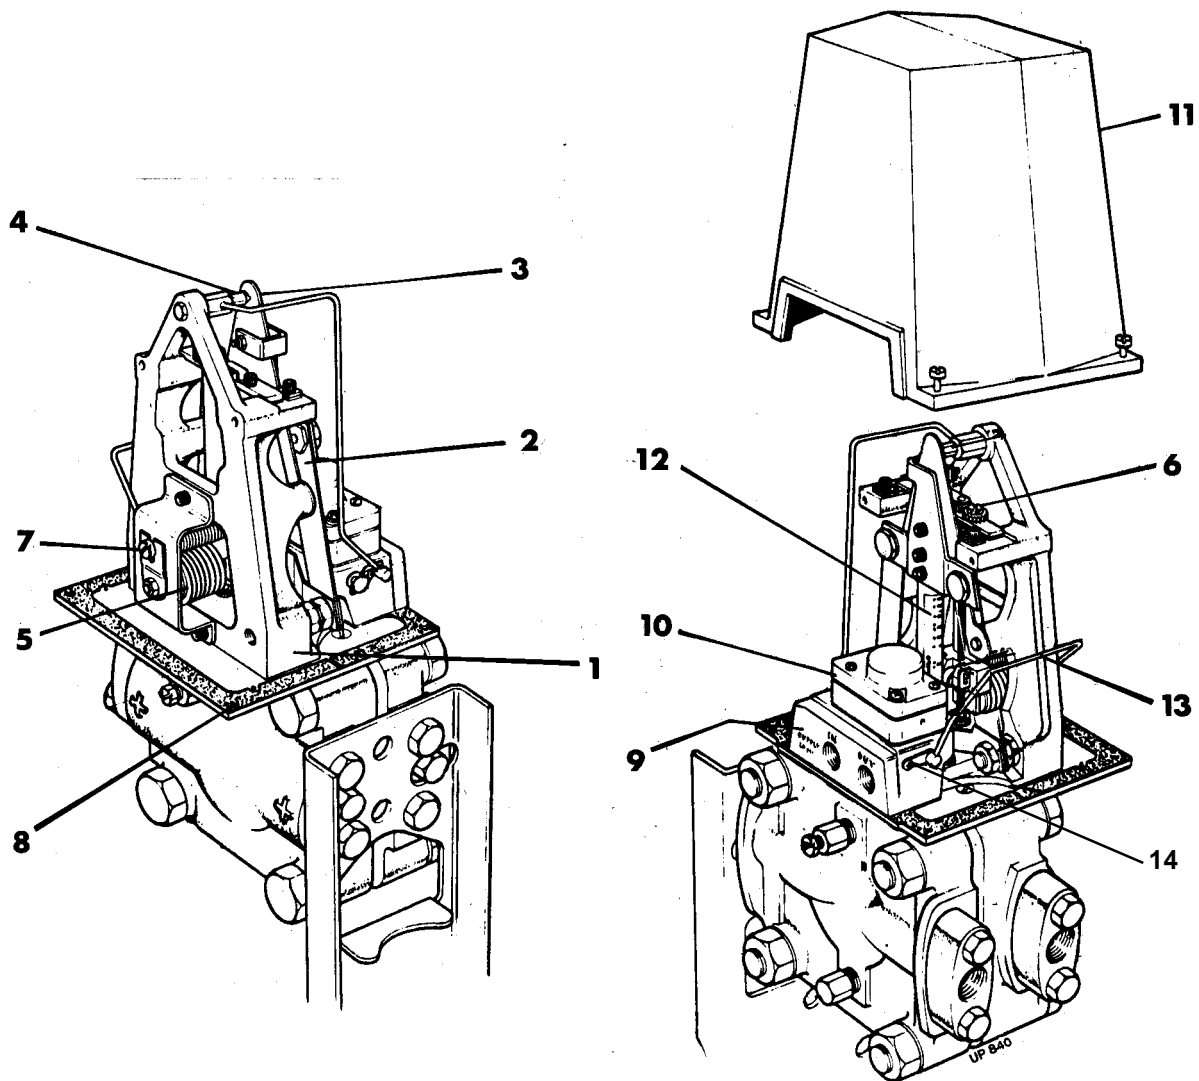

Fig. 3 - Transmission Unit
Transmission Unit (Fig. 3)
- Release the four captive screws and remove the transmission unit cover (11) (fig. 3).